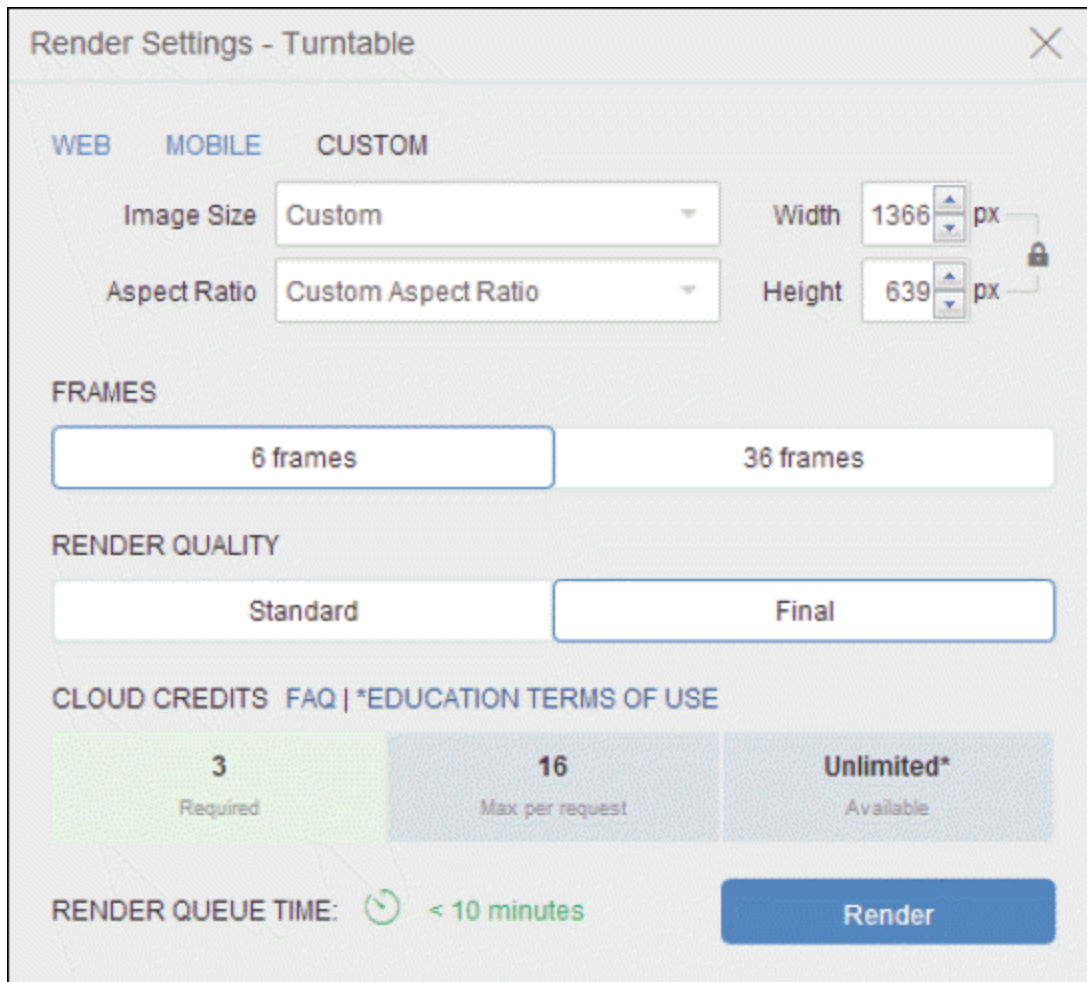

Figure-27. Render Settings-Turtable dialog box
- If you want to create a video of the rotating model then click on the **Turntable** button from **RENDERING GALLERY** dialog box. The **Render Settings - Turntable** dialog box will be displayed; refer to Figure-27.